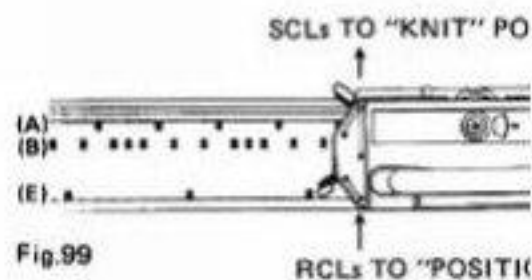

Fig.99
- (c) Push back into position (D) from position (E) every 8th holding needle, and bring forward from position (B) into position (E) another series of every 8th needle starting with 6th needle from the right end. (Fig. 99) Knit 4 rows. Push back into position (D) from position (E) every 8th holding needle.